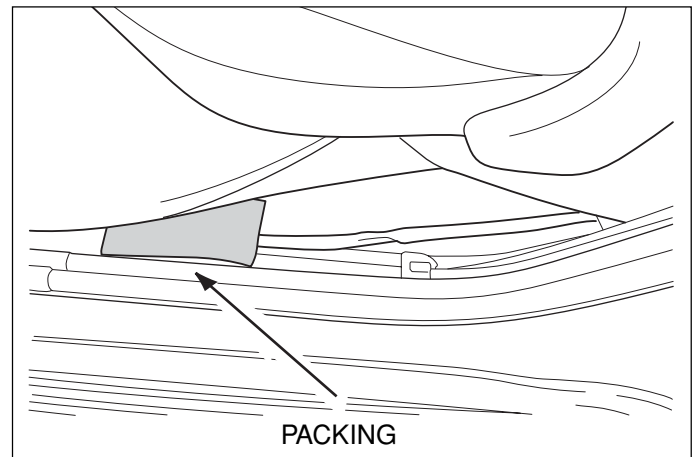

Fig. H7
- ➔ iii. Secure the (26P) connector wire harness using 1 piece of packing (foam tape). (Fig. H7)